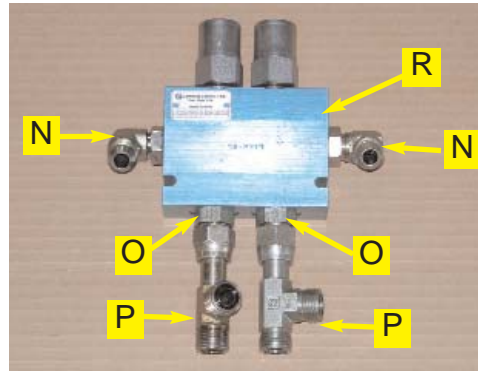

Figure 3. Assembled counter-balance valve block.
- a. Install the elbow fittings (**N**) into the **V1** and **V2** ports and straight adapter fittings (**O**) into the **C1** and **C2** ports of the counter-balance valve block (**R**). (Figure 3.)
- b. Install the run tees (**P**) to the straight adapters (**O**). (Figure 3.)